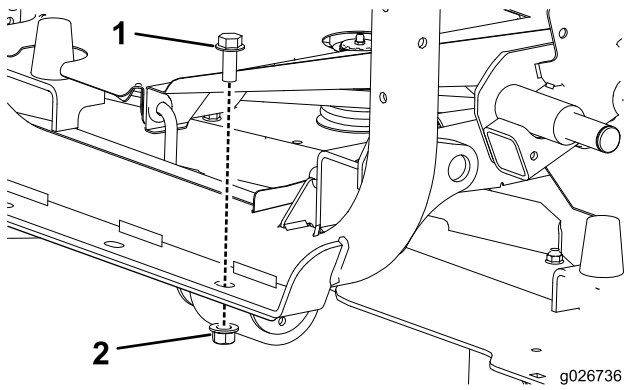

Figure 6
1. On the right side of the machine, remove the nut and bolt securing the rear frame to the front frame (Figure 6).